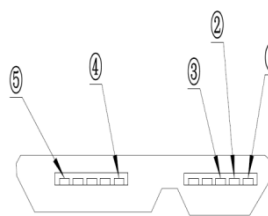

Figure 4-8 IO Serial Port Pins
b) Figure 4-8 shows the instrument's IO serial port pins. The table below describes the five main pins.
①	Serial In
②	Serial Out
③	/
④	GND (Ground)
⑤	VCC (Power)